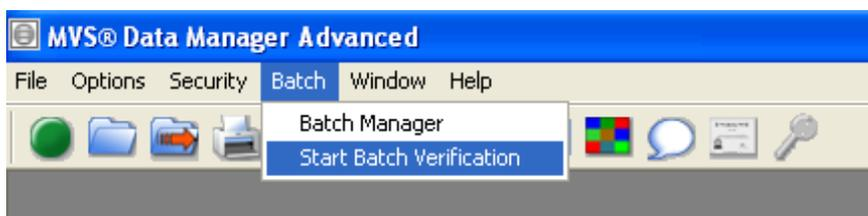

Figure 4. Start a Batch test by going to the Main Menu and selecting “Batch → Start Batch Verification”.
Once a Batch testing method has been created, it can be used by going to the Main Menu and selecting “Batch → Start Batch Verification” as shown in **Figure 4**. The user then selects the Batch test from the list offered in the next software window. In the example here, the user selects the Batch for the Calplate and 96-well Baseline plate. For this Batch method, the MVS software prompts the user three times, in this order: (1) place the Calplate in the plate reader to read the plate; (2) place the filled Baseline plate onto the shaker and shake the plate; and (3) place the Baseline plate
As shown in **Figure 4**, the Batch method is initiated by selecting “Batch → Start Batch Verification” from the Main Menu. The user then selects the specific Batch method from the list. In the example here, the user selects the Batch method for the 8-tip liquid handler and three test volumes. During the volume verification, the MVS software will only prompt the user four times, in this order: (1) scan the bar code on the MVS verification plate; (2) insert the MVS verification plate into the plate reader to read the plate; (3) insert the Corning plate into the plate reader to read the plate; and (4) insert the (second) Corning plate into the plate reader to read the plate. The MVS software generates three different output reports, one for each plate (where there is one target volume per plate). Batch methods can save time because they require less manual work (less scanning, and fewer software prompts to accept/follow).